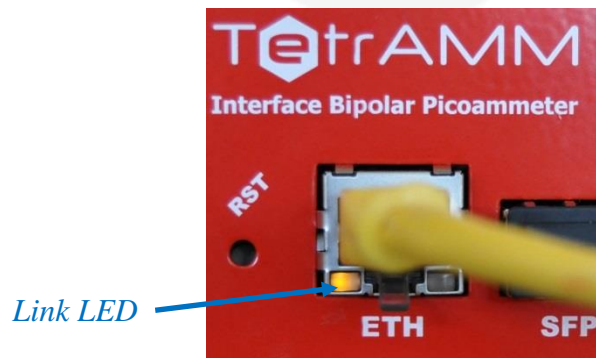

Figure 4: Ethernet Link
- verify that the “Link LED” on the RJ45 connector is turned on (amber for a 1 Gbps connection as shown in **Figure 4** or green for a 100 Mbps connection). The LED is turned off if the Ethernet cable is not connected or if the speed of connection is limited to 10 Mbps (in this last case the device is working correctly even if it is not recommended to use a slow connection since the data transfer rate is limited);